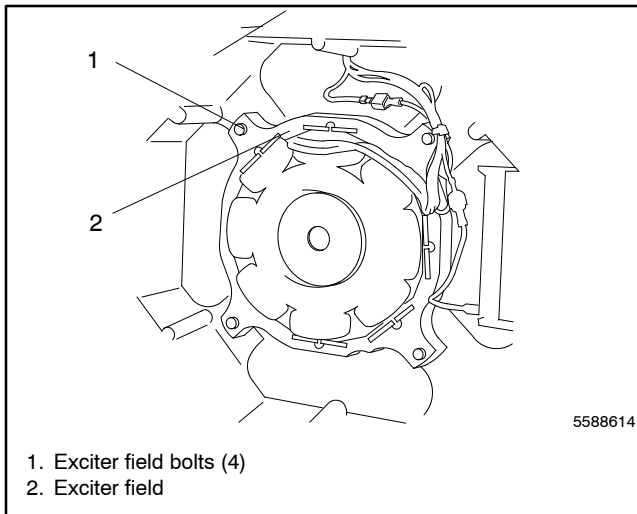

Figure 4-20 Installing Exciter Field
17. Position the exciter field leads at the top. Install the exciter field using four bolts and washers, and torque to specifications. See Figure 4-20.